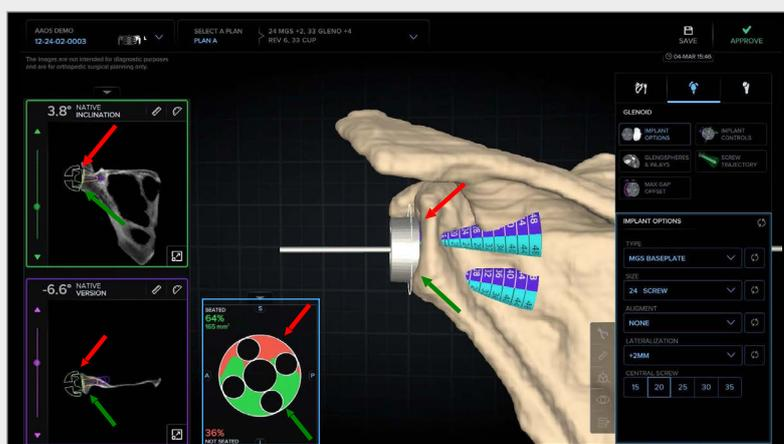

Figure 35. Backside Seating feature
### Backside Seating (Figure 35)
- This measurement can be maximized or minimized using the arrow above the Backside Seating Heat Map (shown in blue box in Figure 35).
- This feature shows areas where the backside of the implant is not contacting bone in red (see red arrows in Figure 35) and areas where the backside of the implant is contacting bone in green (see green arrows in Figure 35) in both 2D and 3D views.